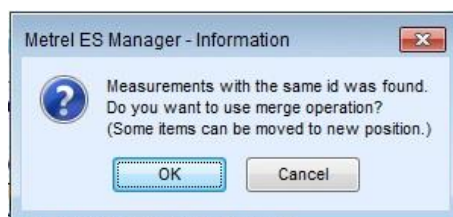

Figure 7.6: Merge confirmation information window
- **Equal unique identifications** were found: a merge confirmation information window **Figure 7.6** appears on the screen: